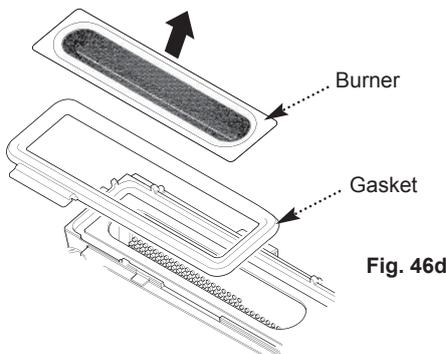
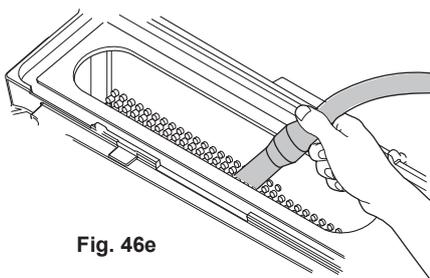

Fig. 46d
Fig. 46e
12. Remove the gasket and burner from the top of the heat exchanger (Fig. 46d). Use a suitable vacuum cleaner to clean the top part of the heat exchanger (Fig. 46e).